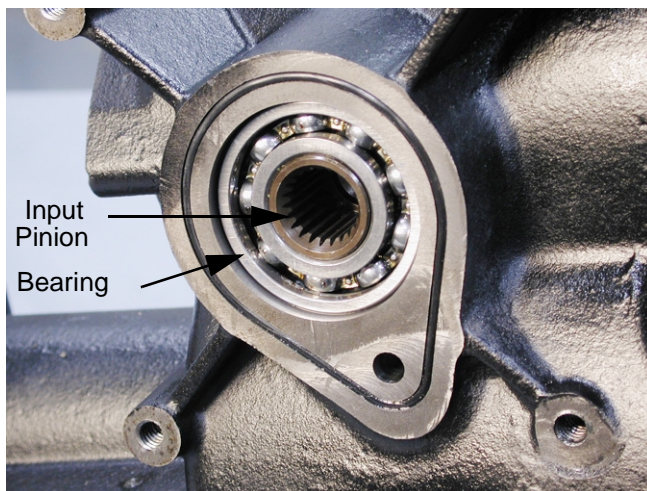

Figure 23
31. Remove the input pinion and bearing from the housing using a soft mallet. See Figure 23.